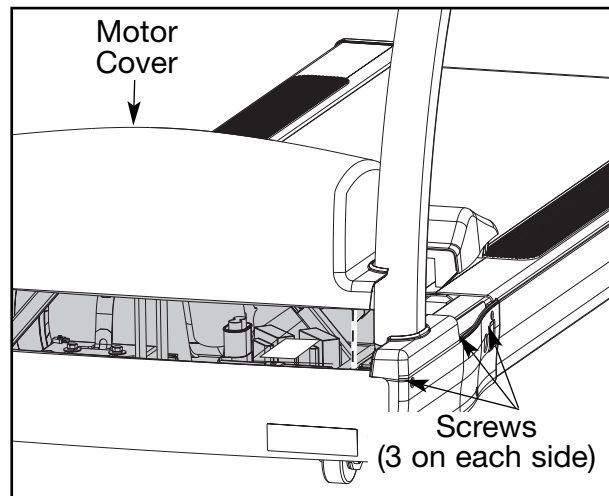

Figure 2
- Enter *Test Mode* by holding down any key on the display while turning the power switch to the on (I) position.
- Turn the main power switch on the left side to the off (O) position.
- Using a Phillips head screwdriver, loosen three screws on each motor cover side (left and right). See Figure 2.
- A. Plug the treadmill back in and turn it to the on (I) position.
- A. Lower the motor cover center into position. See Figure 2.
- E. Press **Stop** and turn the power switch to the off (O) position.
- A. Using a Phillips head screwdriver, loosen three screws on each motor cover side (left and right). See Figure 2.
- B. Lift the motor cover center up and off the treadmill. The screws will stay in place. See Figure 2.
- A. Enter *Test Mode* by pressing and holding down any key on the display while turning the power switch to the on (I) position. When the key is released “ELITE” and the software revision “rx.x” are shown on the display.
- A. Turn the main power switch on the left side to the off (O) position.
- A. Using a Phillips head screwdriver, loosen the three screws on each motor cover side (left and right). See Figure 2.
- B. Lift the motor cover center up and off the treadmill. **NOTE:** The screws will stay in place. See Figure 2.